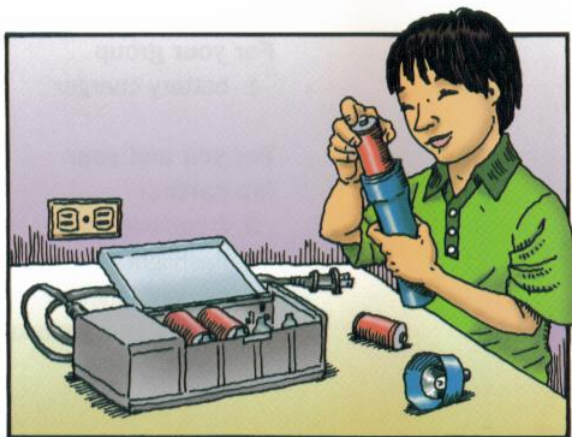

Figure 4.1 Make sure the flashlight is turned off before you remove the batteries from the charger and place them in the flashlight.
3. Switch the flashlight to the “Off” position. Put the two batteries in the flashlight (see Figure 4.1) so that they line up positive end to negative end. Turn on the switch and start the student timer. Stop the timer when the bulb is no longer lit.